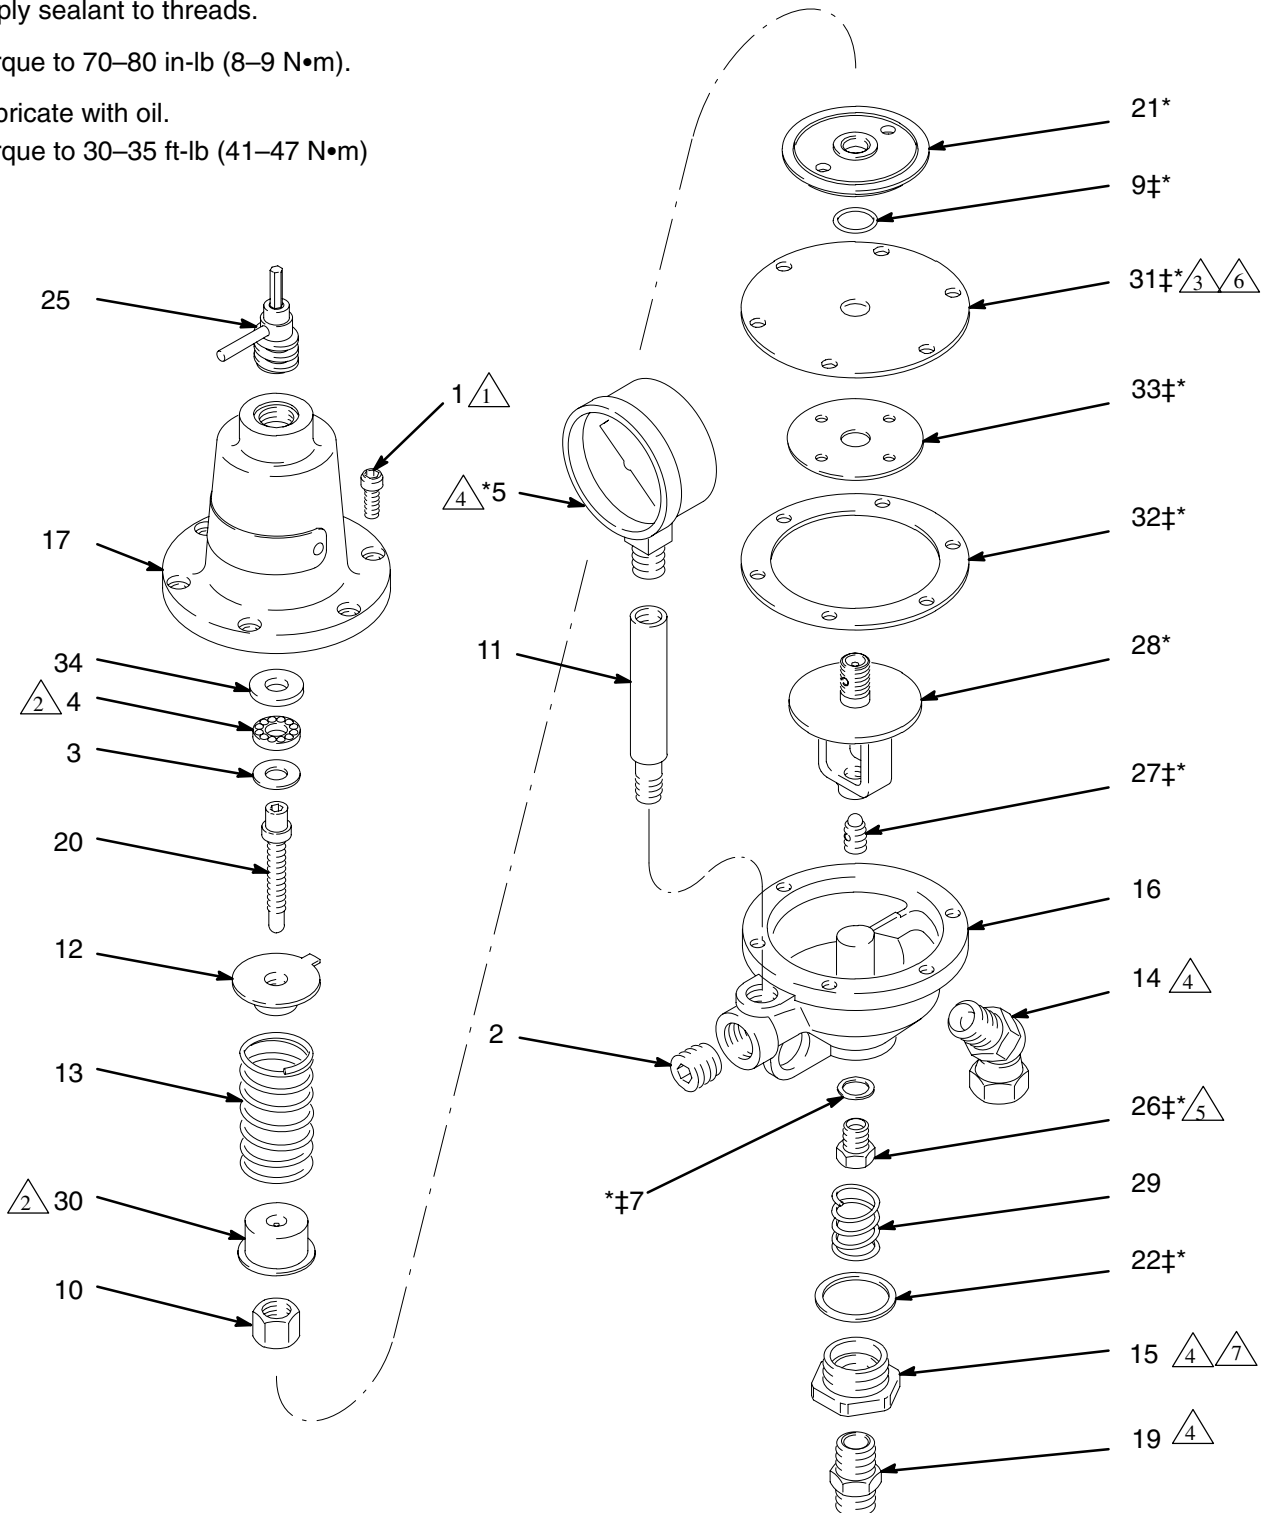

Fig. 4
**Note:** If further service is needed, see notes on lubrication, thread sealant, and torque values in Fig. 4.